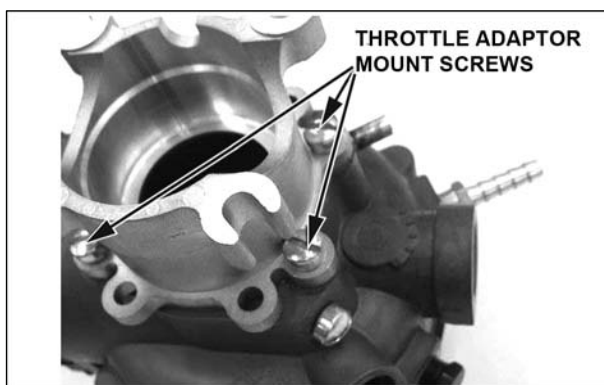

Figure 32. Throttle Adapter Mount Screws
2. Install the four mounting screws that attach the throttle adapter to the mixer. (See **Figure 32**). Torque bolts to 30-40 lbf-in (3.39-4.52 N-m).
3. Position the mixer/adapter assembly onto the throttle body (4), then drop in the four mounting bolts and gently push down on the assembly until it rests on the throttle body. Be careful not to pinch the O-ring.
7. Install the vacuum line (2) to the mixer.
8. Install the air cleaner hose (1).